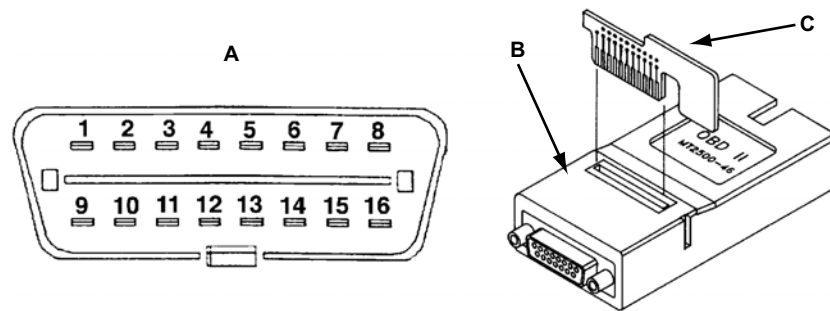

Figure 9-3 OBD-II DLC and adapter
- Use the OBD-II adapter with the specified Personality Key™ device (Figure 9-3 on page 93).